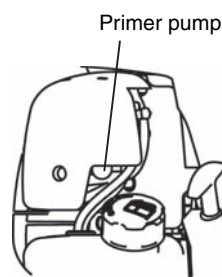

Figure 2
- Inspection: Remove the oil cap. Wipe clean the oil level indicator. Reinstall the oil cap (Figure 2) and remove. Confirm if the oil is between the lower or upper limit of the oil indicator.
- (3) Continue to push the primer pump until fuel comes into the primer pump (Figure 2).
- (4) Orient the machine as shown in Figure 2 and refill oil to the shelf inside the oil pipe.
- (5) After refill, securely tighten the oil gauge. Insufficient tightening of the oil gauge will lead to oil leakage.